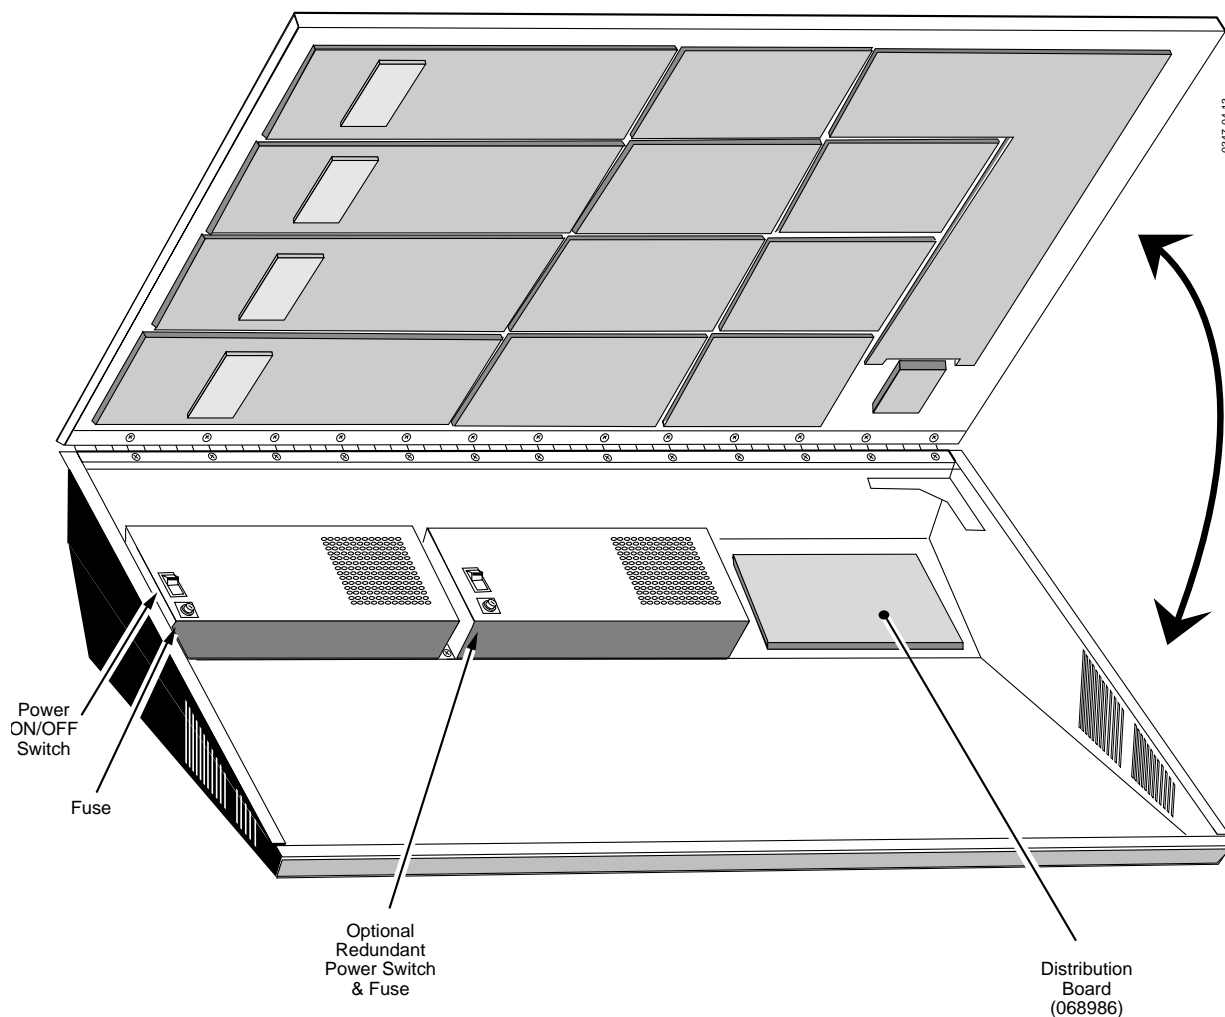

Figure 4-20. Model 4000-3 Control Panel AC Power Switch Location
1. Open the lower Control Panel tub and turn the AC power switch on the front of each supply to the OFF (Ø) position. See Figure 4-20.